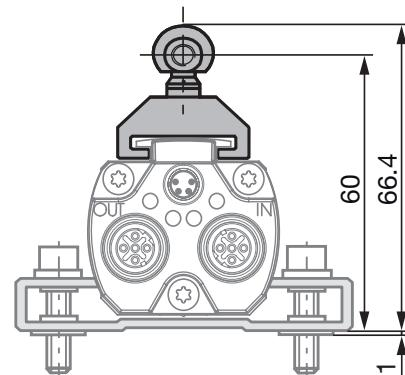
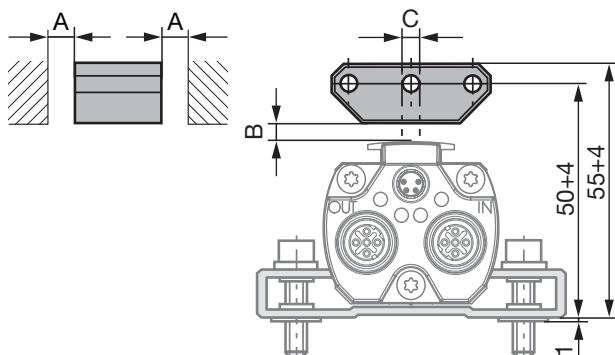

Fig. 4-2: Dimensions and distances with BTL5-F-2814-1S magnet
Fig. 4-5: Dimensions and distances with BTL5-P-3800-2 magnet
- i** The micropulse transducer in profile housing is suitable both for floating, i.e. non-contacting magnets (see Figures 4-5 to 4-9) and for captive magnets (see Figures 4-2 to 4-4).
- Ensure that the distance A between parts made of magnetizable material and the magnet is at least 10 mm (see Figures 4-5 to 4-9).
- Maintain the following values for distance B between the magnet and transducer and for center offset C (see Figures 4-5 to 4-9):